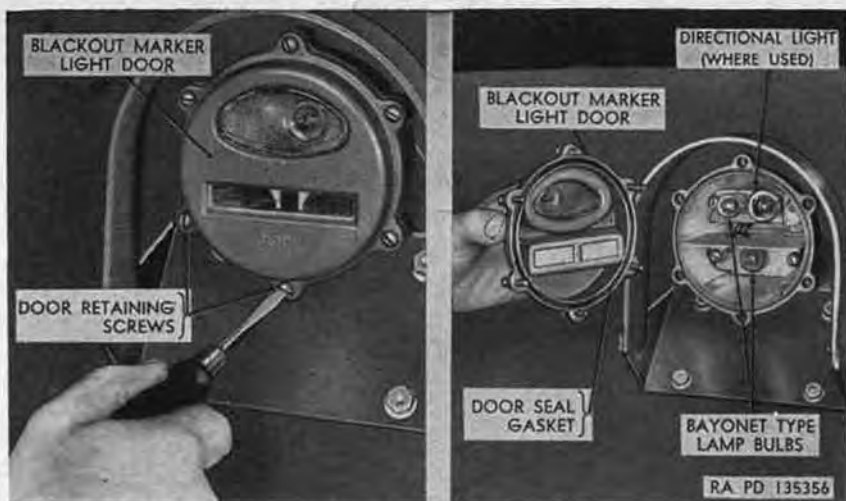

Figure 185. Removing parking lamp and blackout marker lamp.
- (1) Remove six screws securing blackout-marker-light door (fig. 185) to light body.
- (2) Remove blackout-marker light door and door seal gasket.
- (3) Push lamp in and turn counterclockwise to remove lamp from socket.
- (1) Insert base of lamp in socket and turn lamp clockwise to lock in socket.
- (2) Operate light switch (par. 49f) to test parking lights.
- (3) Install door seal gasket in groove in blackout-marker-light door (fig. 185), position door at front of light body, and install six screws. Tighten screws.